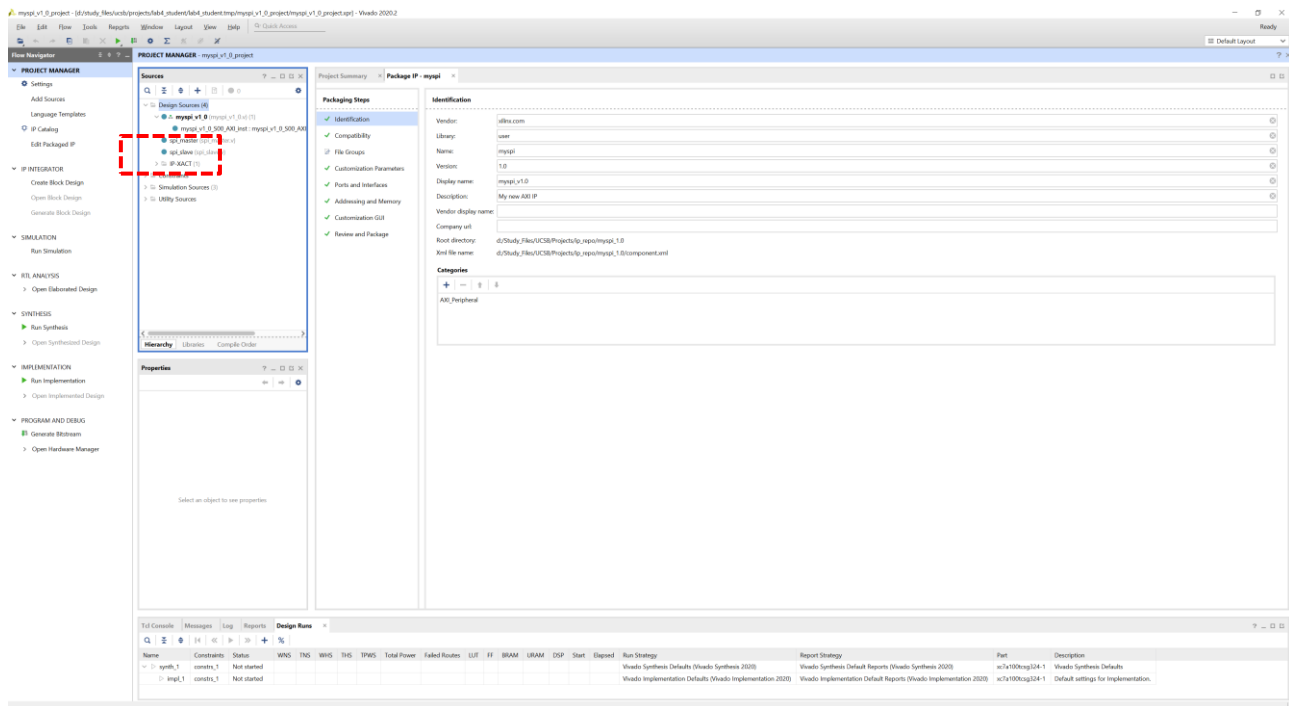

Figure 11: Add “spi_master.v” and “spi_slave.v” to the design.
2) Add your completed “spi_master.v” and the provided “spi_slave.v” into the “Design Resources”, as in Figure 11.